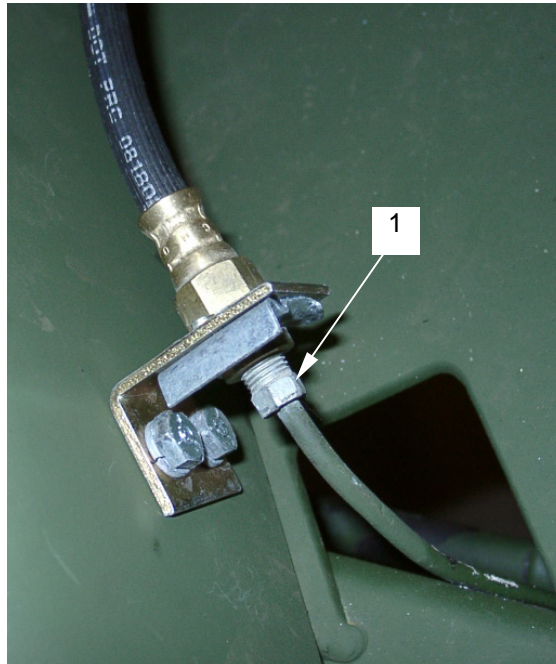

Figure 42. Hard Line To Actuator Hose Fitting
- a. Loosen and remove hard line to 'tee' (**figure 42, item 1**).
- e. Connect hard line to brake actuator hose fitting (**figure 42, item 1**).